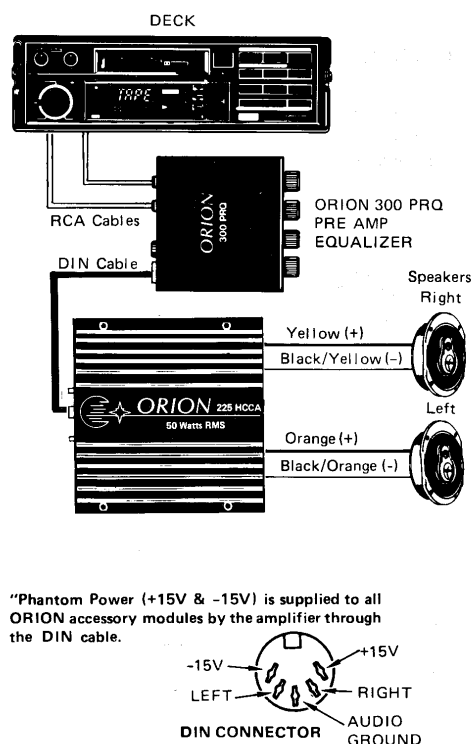

Figure 2. Basic Single-Amplifier System Using an Equalizer and Existing Speakers
(1) **Adding Equalization.** To improve the system even more, you could add an equalizer, such as an ORION 300 PRQ Pre Amp Equalizer, 600 EQM Equalizer, or 500 PMQ Parametric Equalizer (see page 6). The equalizer would be inserted in the system between the deck and the amplifier as shown in figure 2.